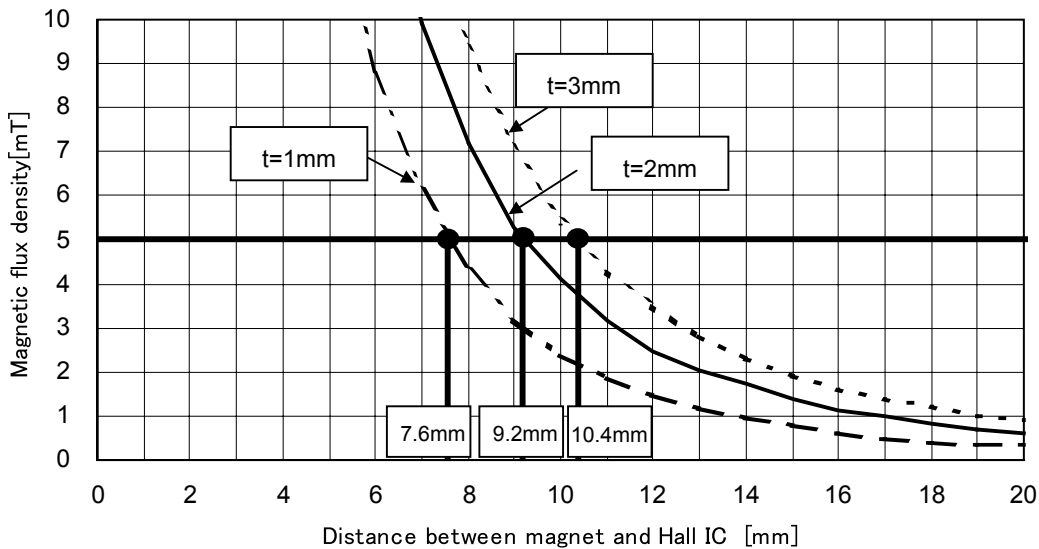

Fig.27
Of the two varieties of permanent magnets available, neodymium generally offers greater magnetic power per volume than ferrite, thereby enabling the highest degree of miniaturization. Thus, neodymium is best suited for small equipment applications. Fig. 27 shows the relation between the size (volume) of a neodymium magnet and magnetic flux density. The graph plots the correlation between the distance (L) from three versions of a 4mm X 4mm cross-section neodymium magnet (1mm, 2mm, and 3mm thick) and magnetic flux density. Fig. 28 shows Hall IC detection distance – a good guide for determining the proper size and detection distance of the magnet. Based on the maximum operating point of 5.0 mT (BU52011HFV, BU52015GUL), the minimum detection distance for the 1mm, 2mm and 3mm magnets are 7.6mm, 9.22mm, and 10.4mm, respectively. To increase the magnet's detection distance, either increase its thickness or sectional area.